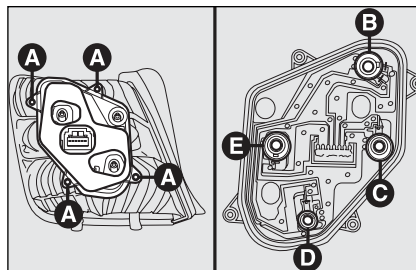

fig. 32
- ☐ unloose the 4 screws **A**-fig. 32 and remove the bulb holder;